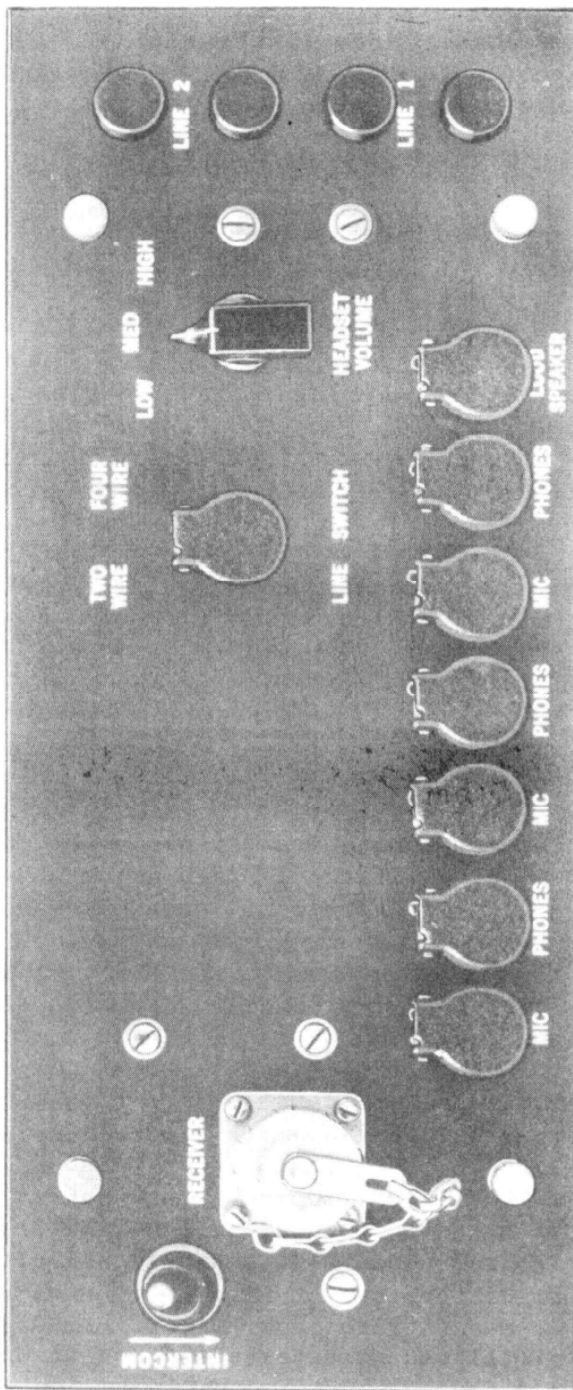

Fig. 8. Remote Control Unit C-112/TRA-2, front panel.
a. *General.* For all applications set power switch to ON position; pilot lamp should light. Handset TS-15() or H-23()/U furnished with Radio Transmitter T-14()/TRC-1 is plugged into the jacks at the lower right-hand corner of Control Unit C-113/TRA-2 (fig. 7). Refer to figure 8 for front panel of Remote Control Unit C-112/TRA-2. Facilities are available for